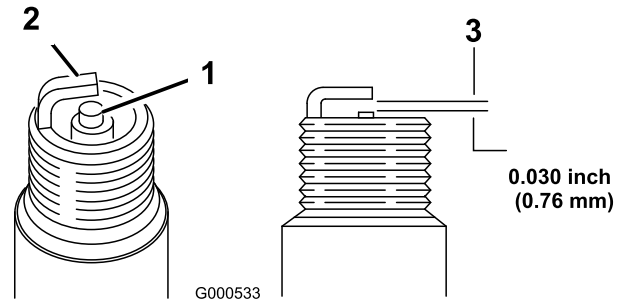

Figure 40
1. Look at the center of the spark plugs (Figure 40).
2. Check the gap between the center and side electrodes (Figure 40) and bend the side electrode if the gap is not correct.
3. Push the wires onto the spark plugs (Figure 40).